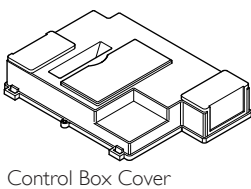

Fig. 62
13.19 P.C.B. (Fig. 62)
2. Completely undo the screws securing the control box cover and release the cover retaining barbs from their slots. Disengage the rear of the cover from the control box hinge pin (Fig. 62).